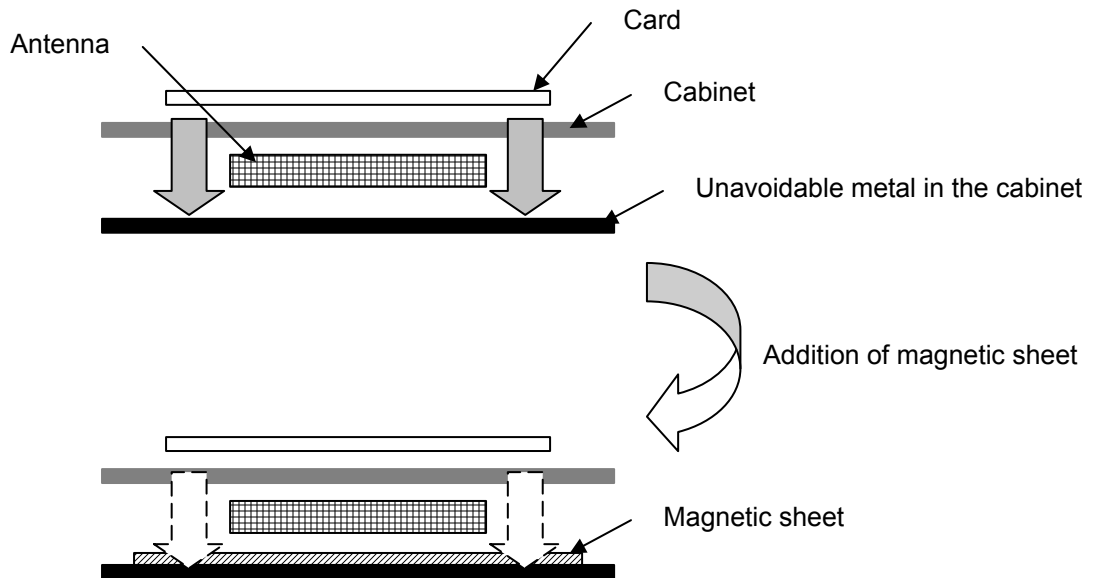

Figure A-2: Reduction of the impact of metal
4. If no performance improvement is achieved through the steps described above, add magnetic sheets, as shown in Figure A-2, to the metal surface that faces the card.